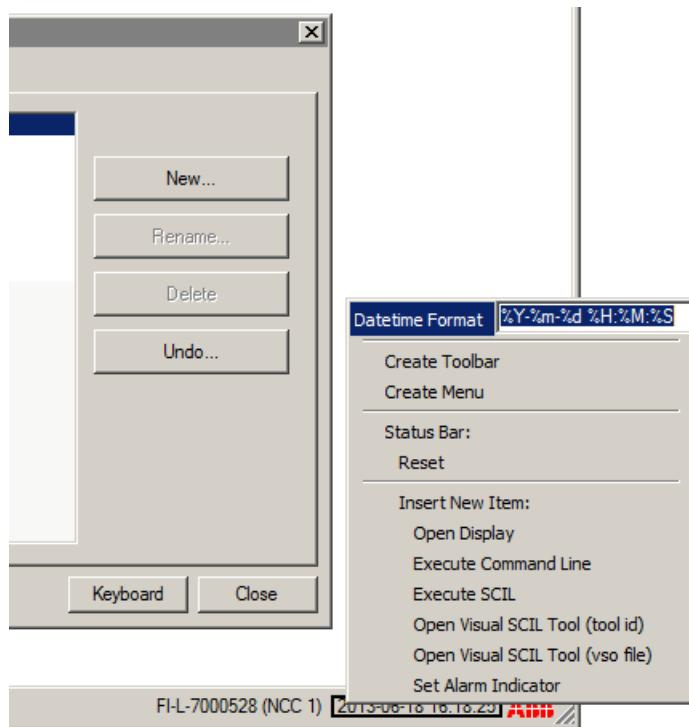

Figure 24: Customizing user specific time format
2. Right click the time on Status Bar, see Figure 24.